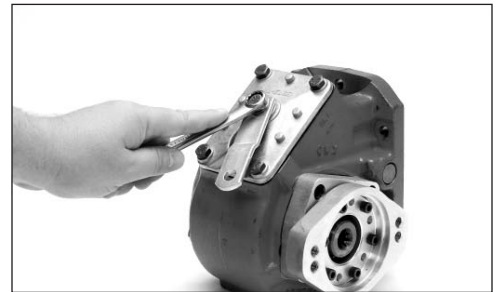

Fig. 7
11. It will be necessary to rotate the P.T.O. shift lever 180° from the position it is normally positioned (Fig. 7 & 8).